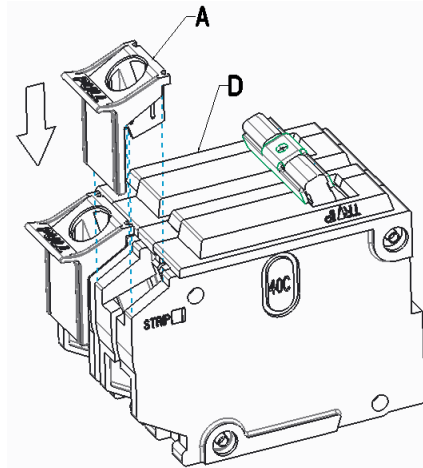

Figure 1: Insert Service Barrier onto Main Circuit Breaker
3. Insert the Service Barriers (A) onto line side of circuit breaker (D) as shown in Figure 1. Two Service Barriers included with the kit, need to assemble to both the poles.